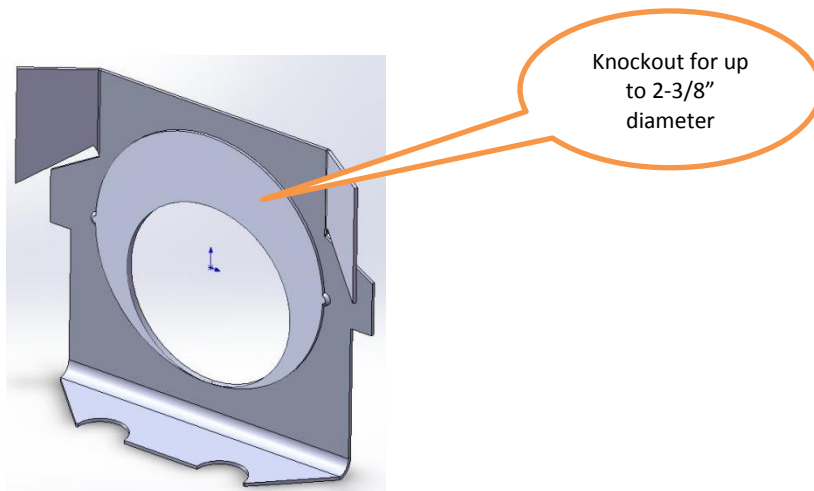

Figure 2
2. The CitySaver luminaire can be installed on a mast arm with a minimum 1-1/4" NPS (1.67"/42 mm OD nominal) to a maximum 2" NPS (2.38"/60mm OD nominal). To install the luminaire on a 1-1/4" NPS mast arm, insert the mast arm into the back of the CitySaver luminaire through the bird guard and into the pipe clamp(s). For a mast arm larger than 1-1/4" NPS and up to 2" NPS, remove the knockout from the bird guard. (See Figure 2) Insert the mast arm into the back of the CitySaver luminaire and into the pipe clamp(s).